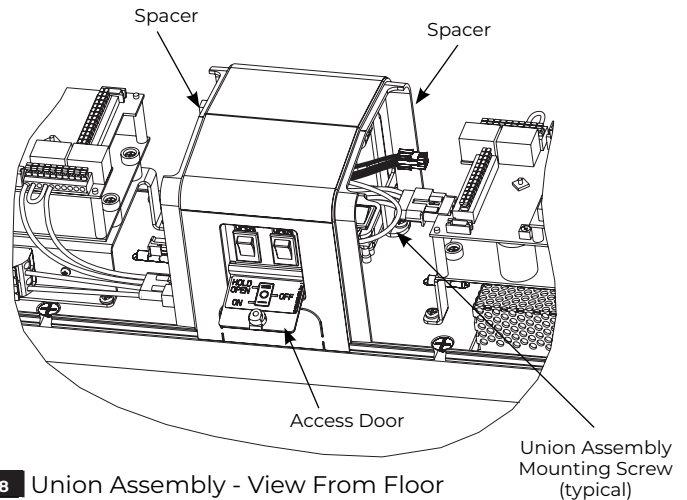

Figure 18 Union Assembly - View From Floor
1. Orient union assembly so access door covering selector mode switches faces floor. (Figure 18)
2. Secure union assembly to backplate using four (4) #8-32 x 5/16" Phillips pan head screws. (Figure 18)